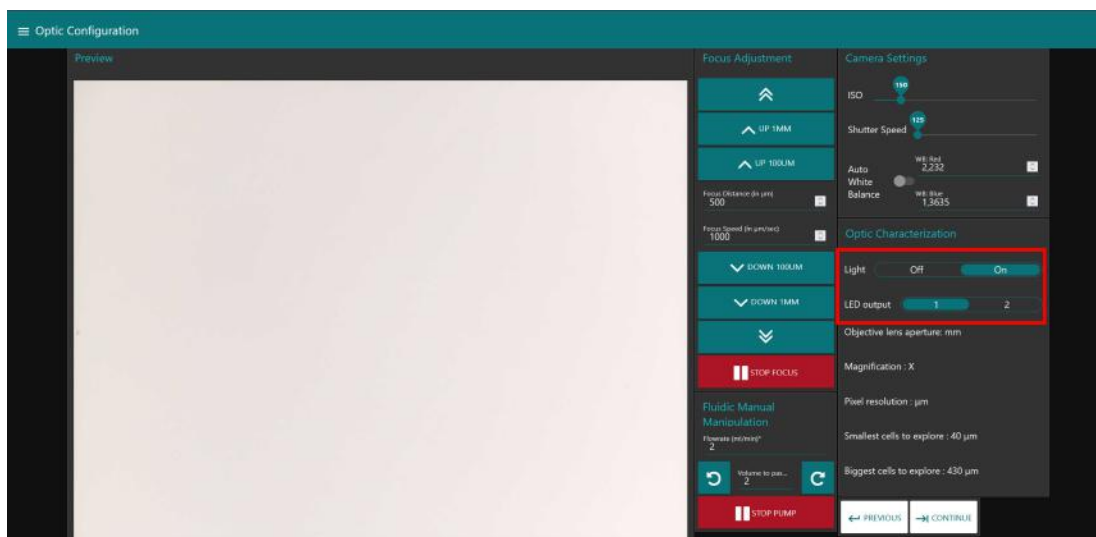

Figure 3: The red box highlights the location for turning on the LED
There are several tabs on the User Interface (UI, Fig.3) that can be used to adjust setting, run samples and take images. To navigate around the UI, all tabs are available from the Home tab, including the Shutdown button. We can also use the Hamburger Menu, situated in the top-left corner of the UI, to navigate between these tabs.
- Under "Optic Characterization", **switch on the "Light"** (Fig.3). You should see the "Preview" image turning from dark to light. The Preview image could be any colour so do not worry if yours show blue, red, green, etc. ; it will be adjusted later during the White Balance (WB) calibration. **You will need to switch on the light every time you use your PlanktoScope.**